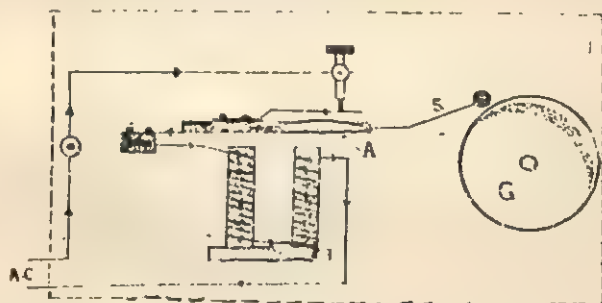

Fig. 8.5. Electric Bell.
- (i) Bring an electric bell of usual type as shown in Fig. 8.5.